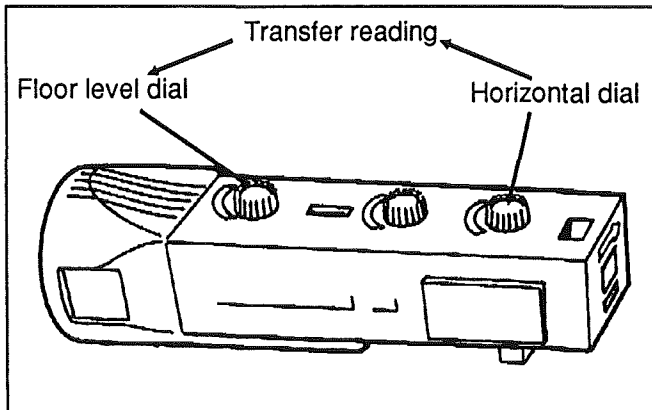

FIG. 40
6. Set according to floor slope. Transfer positive (+) or negative (-) reading of horizontal dial to the floor level offset dial to offset floor slope on each aligner (see fig. 40). Push on the floor level offset dial to register reading.